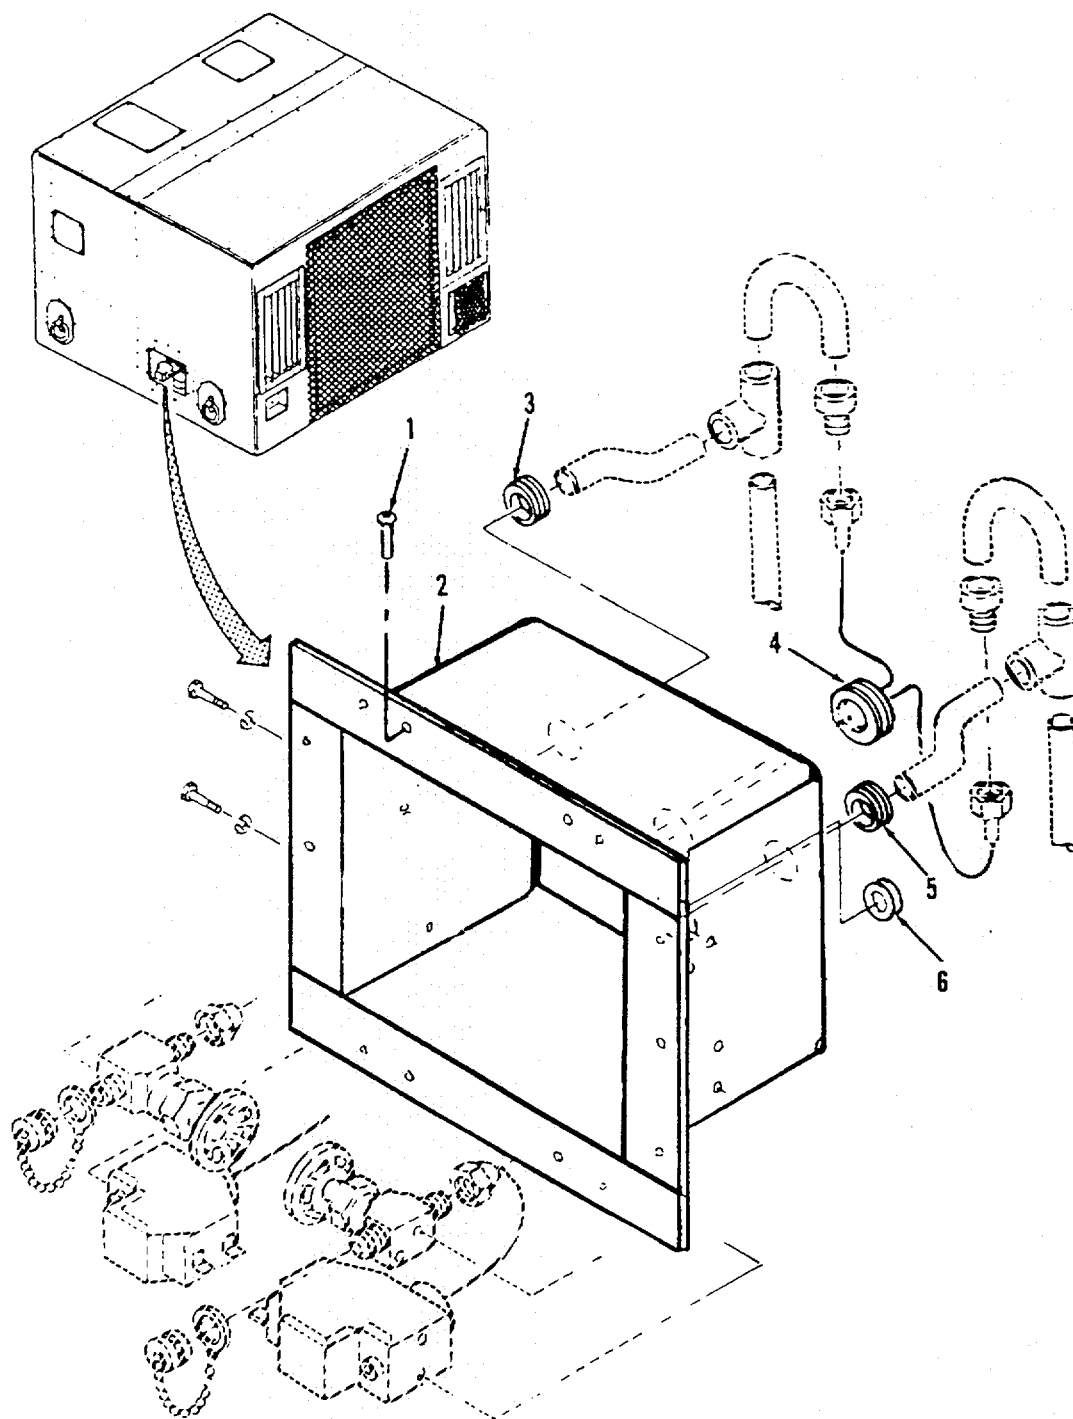

Figure 4-26. Service Box.
**a. Removal.** (Refer to Figure 4-26).
- (1) Remove six screws (1) and service box (2).
- (2) Remove grommet (3), grommet (4), grommet (5), and grommet (6).